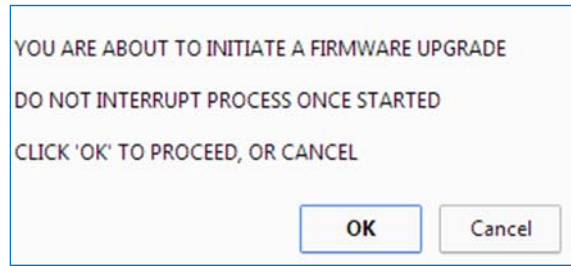

Figure 6-4: Proceed With Upgrade Prompt
- Click the “Upload” button. A warning message will appear; click the “OK” button (See **Figure 6-4**).